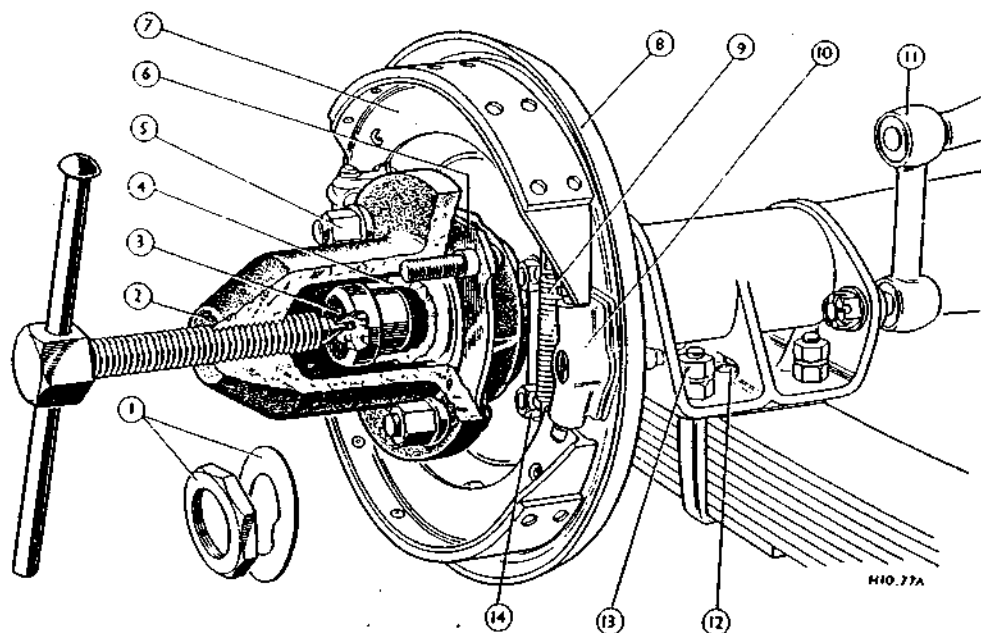

Fig. 1.
9. To use the extractor on the rear hub, the adaptor (3, Fig. 1) will be needed. It will be seen this piece fits into the end of the axle tube and provides a stop for the extractor bolt when this is screwed up.